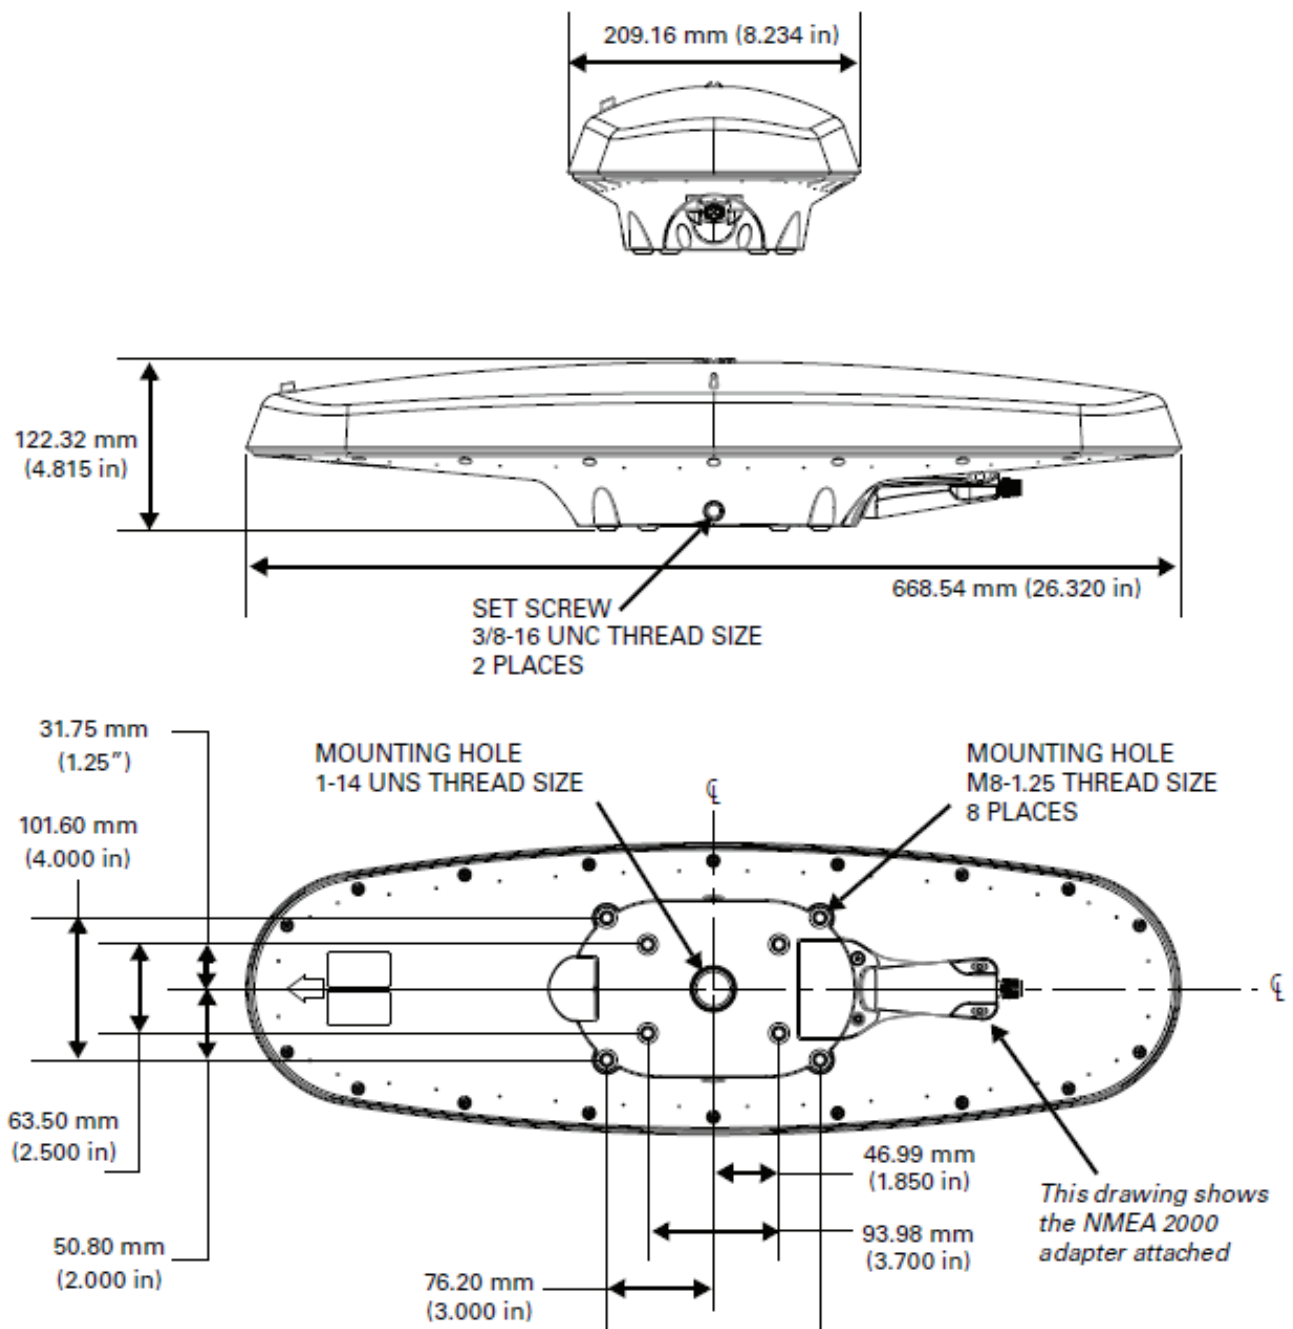

Figure 2-6: HS80A/MX575D Smart GPS compass dimensions
- Flush mount - The bottom of the Smart GPS compass contains eight M8-1.25 holes for flush mounting the unit to a flat surface (see Figure 2-6). The eight holes comprise two sets of four holes. The inner four holes are in the same location as the HS70, allowing you to use the Smart GPS compass as a drop-in replacement. The outer four holes provide a wider mounting option.
- Pole mount - Attach the included pole mount bracket to the bottom of the Smart GPS compass with the included screws. Hand tighten until snug (do not over tighten). The set screws on the long sides of the base (see middle drawing in Figure 2-6) allow you to secure the Smart GPS compass in place (3/16" Allen wrench not included).
Figure 2-6 illustrates the physical dimensions of the Smart GPS compass.
4. Use the set screws on the long sides of the base (see "Figure 2-6: HS80A/MX575D Smart GPS compass dimensions" on page 11 ) to secure the Smart GPS compass in place (3/16" Allen wrench not included).